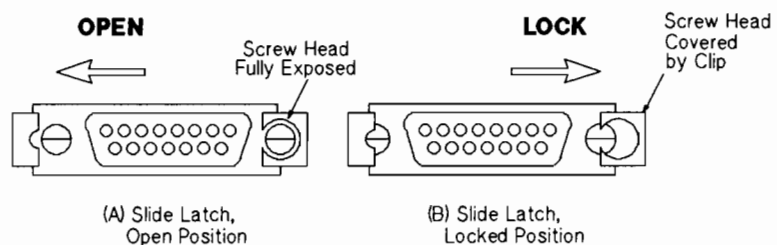

Figure B-2. Securing Cable Hold-Down Clips
- Slide the hold-down clip to the "open" position (see Figure B-2(A)).
- Slide the hold-down clip to the "locked" position (see Figure B-2(B)). This hold-down clip prevents accidental cable disconnection during operation.